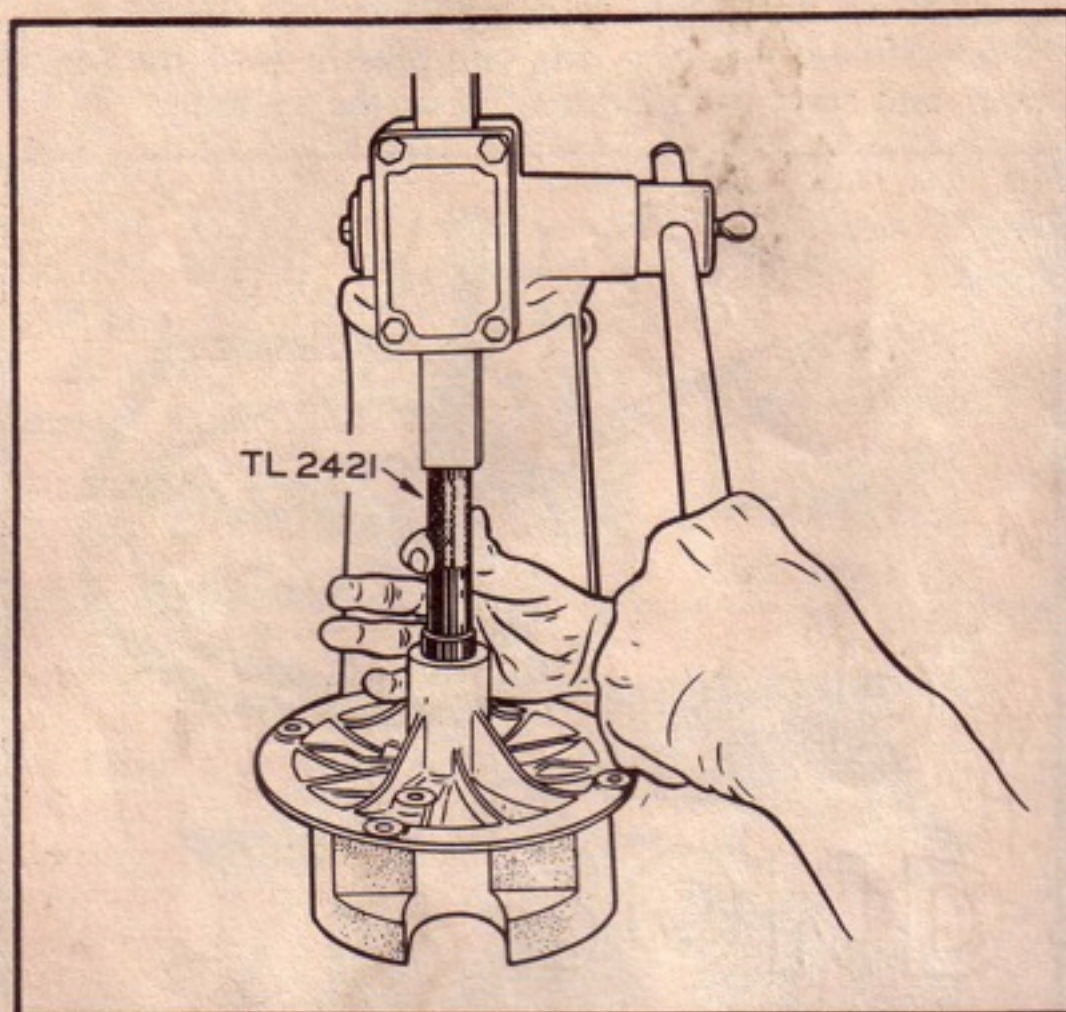

Figure C-31. Installing Needle Bearing in Bearing Housing
b. Clean all parts and press the needle bearing into the bearing housing with the main bearing driver, Part No. TL-2421. (See figure C-31.)